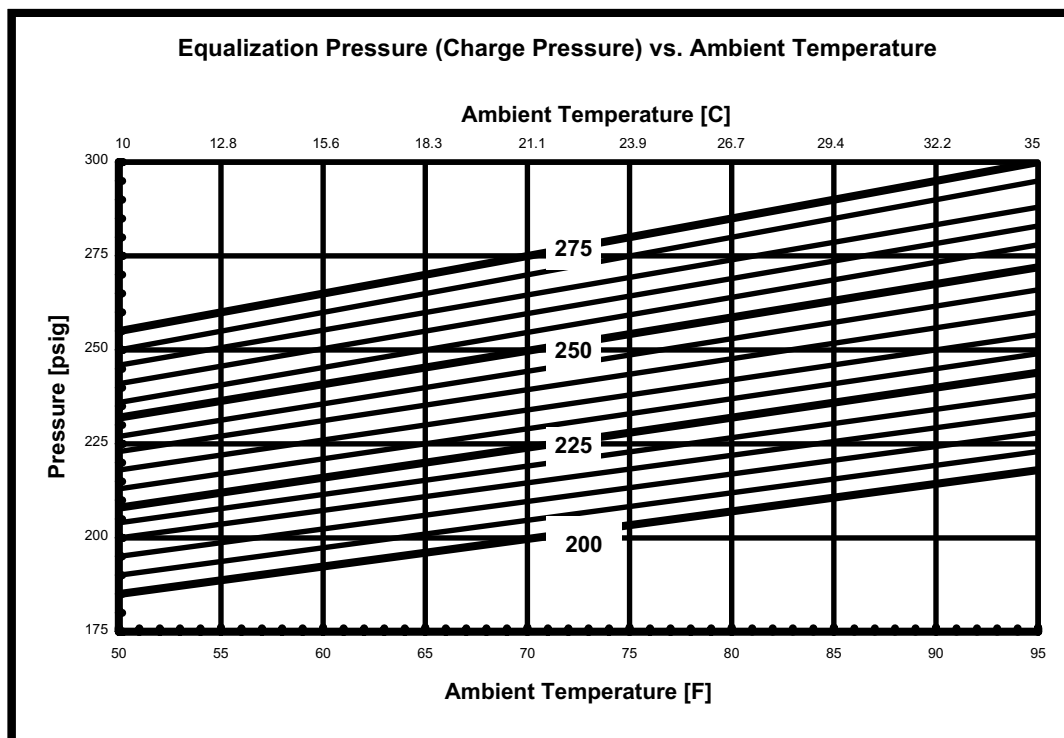

Figure 5a: Equalization (Charge) Pressure vs. Ambient Temperature
3. Check the pressure gauge mounted on the back of the compressor. The pressure should be within the ranges shown on Figures 5a and 5b. If the equipment has recently been moved from an area where the temperature differs greatly from the present area, allow the components to equalize to the new room temperature before verifying correct charge pressure. If the pressure is not within the ranges, contact the nearest Brooks Service Center.
6. After all the components are connected, verify that the charge pressure is correct by checking the pressure gauge mounted on the back of the compressor. Account for ambient temperature by referring to Figure 5a.
2. Read the pressure gauge. If the equalization pressure is within specifications (see Figures 5a and 5b), continue to either **2.1** or **2.2** for the installation procedure.